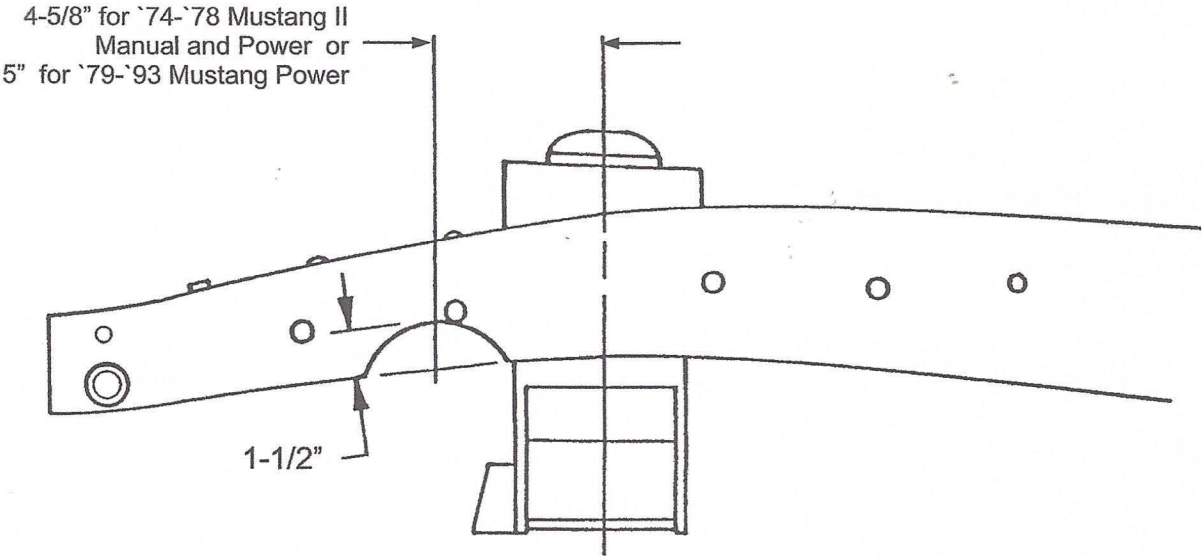

Figure 4
7. The C-notch for the rack is the last part to be done. Measure forward from the centerline 4-5/8" for '74-'78 Mustang II power and manual or 5" for '79-'93 Mustang power rack, and up 1-1/2" and make a mark. Now draw a 2-1/8" radius, using your mark as the top of the radius. See Figure 4. Trim out the material marked, leaving about 1/8" to work with, and then try the rack and the C-notch filler piece. Finish grind the notch for fit and location, and tack the filler pieces in place. Remove the rack.